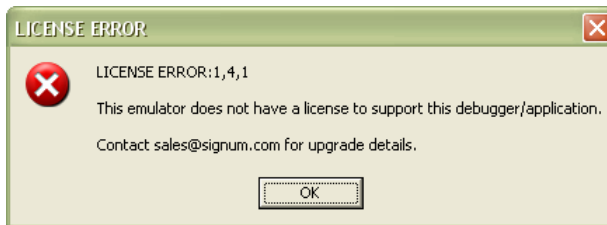

FIGURE 3 License error message.
9. The Keil μ Vision3 Driver for ARM requires license permissions for the emulator. Some emulator models have the license built into them, eliminating thus the need for the user's intervention. However, emulators without integrated license support display the error message shown in Figure 3 upon μ Vision3's attempt to establish connection with them.